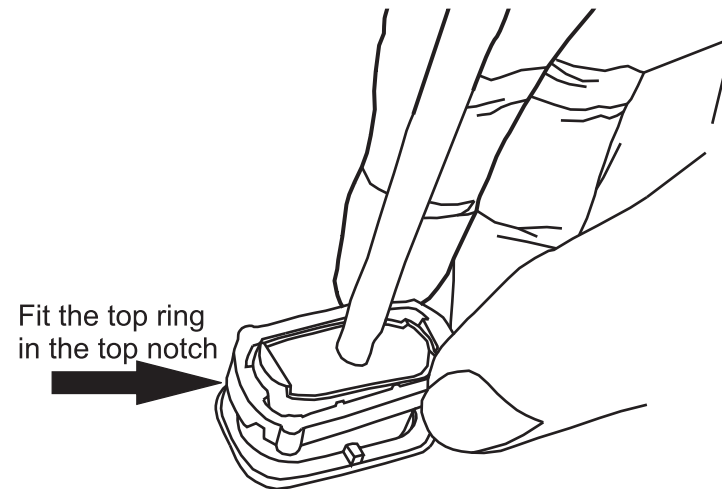

Fig. 5
- 6) First put the bottom ring over the sensor module. Then fit the top ring in the top notch on one side and press it from the other side as shown in Fig. 5. The top ring will be locked in the top notches on both the sides of the sensor module.